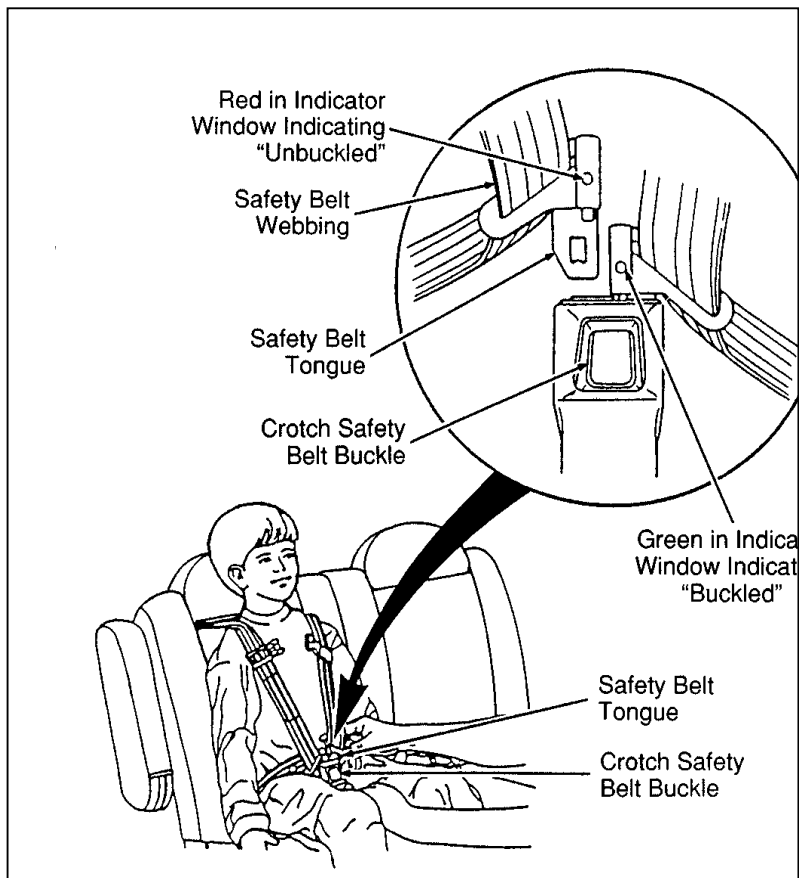

Figure 4: Fastening the crotch safety belt buckle
5. Insert either the left or right safety belt tongue into the single opening of the crotch safety belt buckle as shown in Figure 4. (It does not matter which tongue is inserted first.) Then insert the other tongue. The color green must appear in the indicator window on each tongue when buckled.